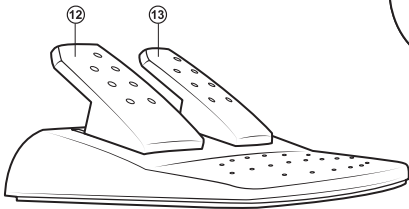

Fig. 3. Foot pedal unit
- Connect pedal unit to the device (Fig. 3) via cable of the pedal unit to RJ-11 jack (14), then connect USB cable (15) of the device to the USB port of the computer.